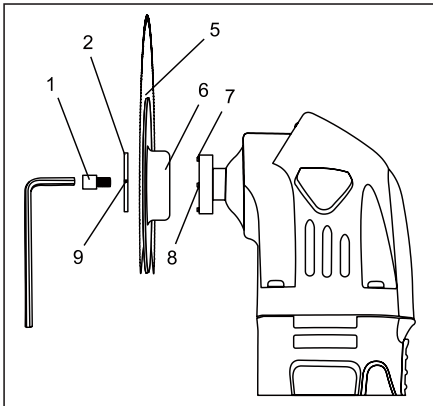

Fig. 2
2. Place the blade (5) on the accessory holder (Fig. 2).